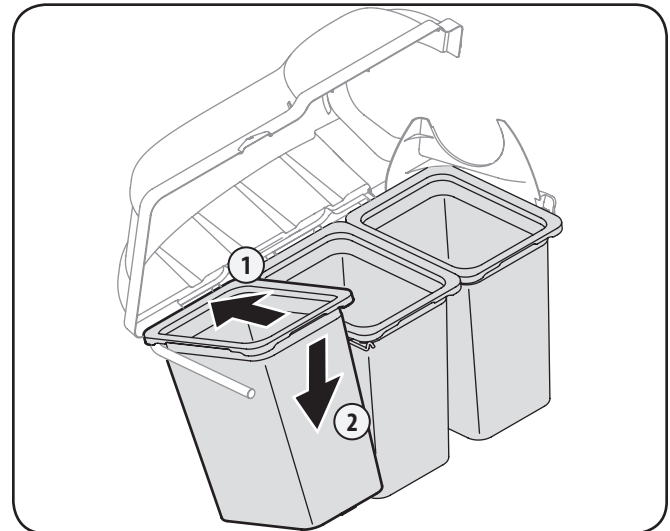

Figure 4-15
8. Install the bag assemblies, with the tight mesh side facing the rear of the tractor (forward), onto the bag support brackets by inserting the front edge in first, as seen in Fig. 4-15, and setting the back edge down until it fits into the assembly.